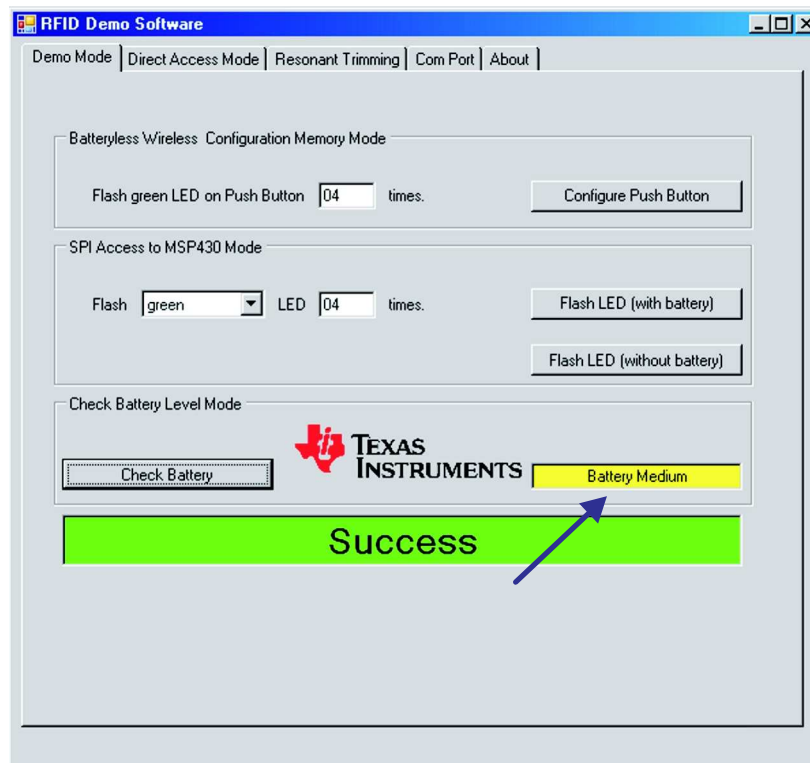

Figure 24. Demo 3 - Check Battery Level Mode: Medium
- Yellow: Medium voltage (see Figure 24)